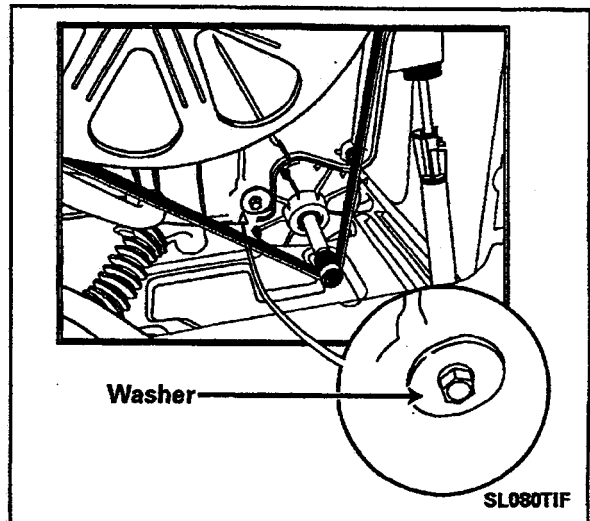

Figure 2-50
The drive belt has six (6) ribs which mate with the face of the motor pulley. The belt encircles the motor pulley and also the drive pulley of the spinner (*Figure 2-50*).
1. No adjustment is necessary. The belt is designed to stretch and adapt to proper adjustment between the drive pulley and the motor pulley (See Figure 2-50).